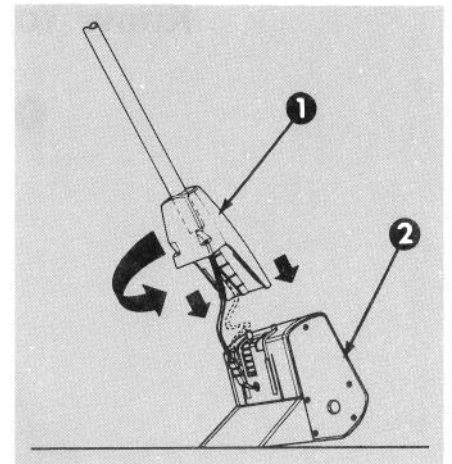

Figure 6
13. Set power head as shown in Figure 6 so that assembled handle may be inserted and pushed down. Turn handle **clockwise** 1-1/2 turns until the power head and handle are properly aligned.